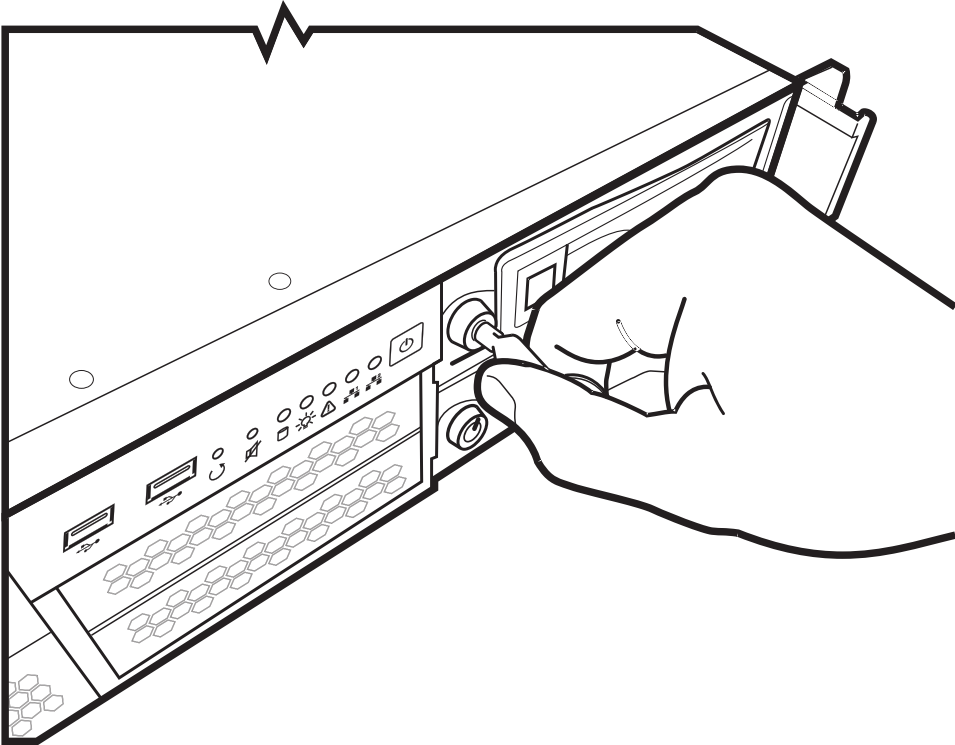
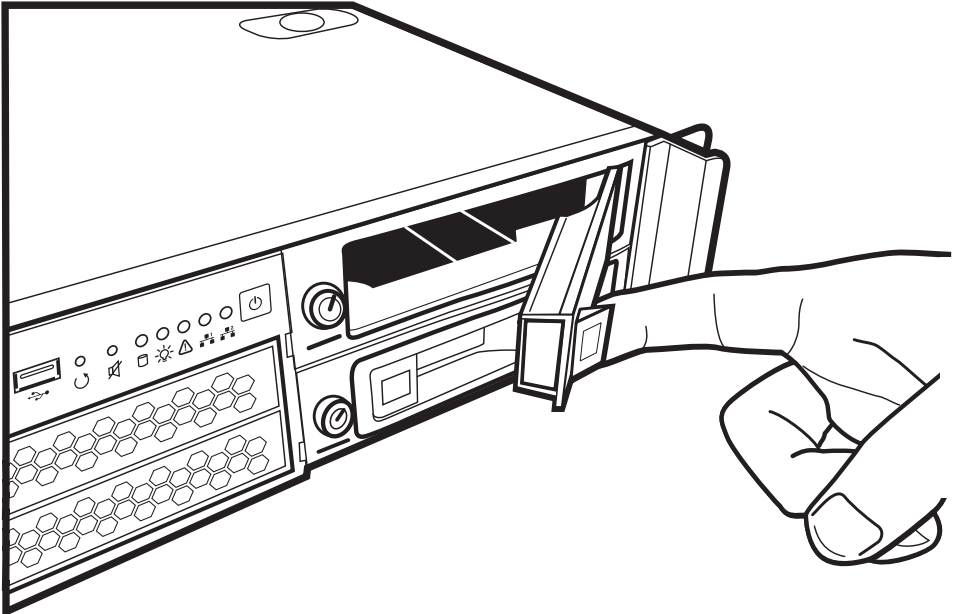

Figure 2.14 Unlocking the Hard Disk Door
Figure 2.15 Opening the Hard Disk
2. Using the hard disk key, open the top hard disk tray. See figure 2.14 on page 19, and figure 2.15 on page 19.